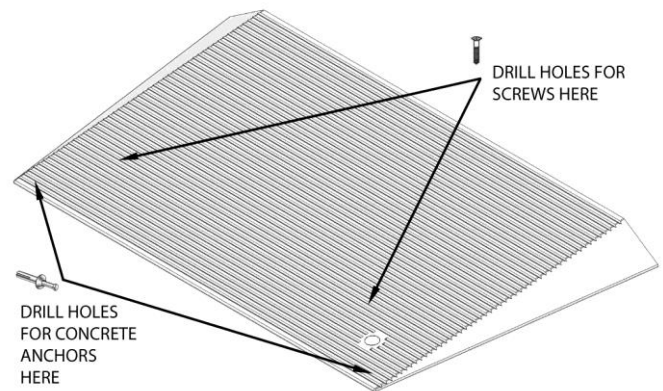

FIG. 2
- b. Fasten mat using supplied Phillips head screws (two each). Space screws evenly (see FIG. 2 for placement) and drive until head is ¼" below the mat surface.
- b. Using a ¼" diameter masonry bit, drill a hole 2" deep 1" from the edges of the corners at the taper as shown in FIG. 2.